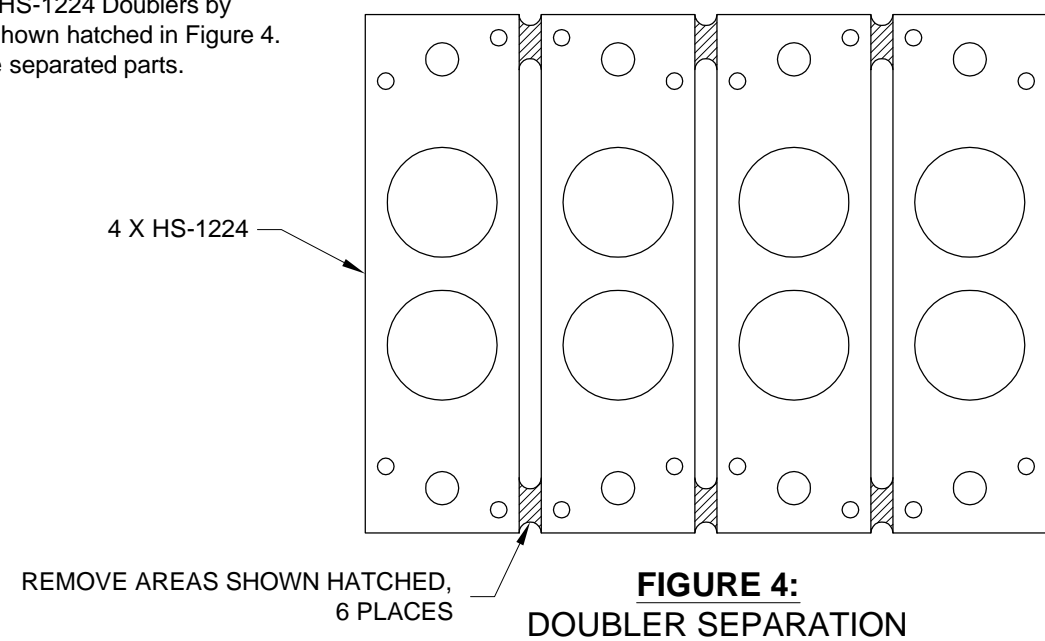

FIGURE 4:
Step 10: Separate the HS-1224 Doublers by removing the material shown hatched in Figure 4. Deburr the edges of the separated parts.